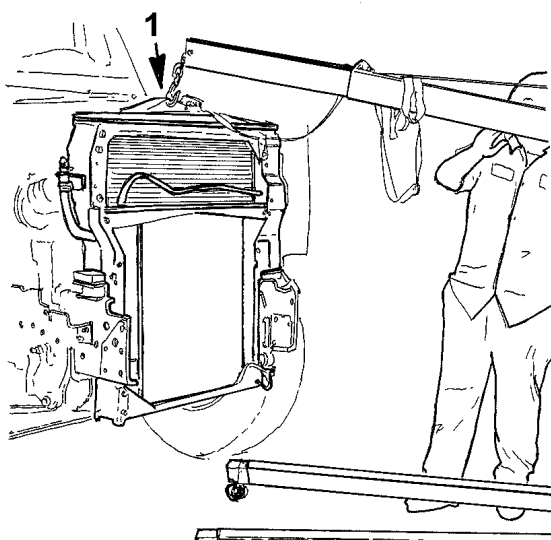

Figure 19 Lift Radiator From Chassis Rail
5. Using a hoist (Item 1, Figure 19) and the sling already attached to the radiator assembly, lift the radiator from the chassis frame rail.